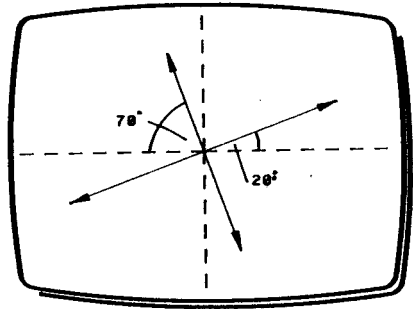

Fig 2
- 3 Switch on the Coarse ANGLE flag. The cursor is now locked (Fig 2).